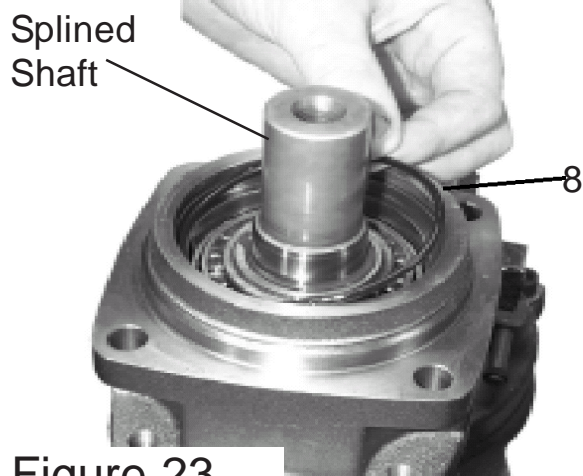

Figure 23
7. Install O-Ring Seal. Install the O-Ring seal (item 8) into Bearing housing making certain it is straight and seated into housing. (See Figure 23)